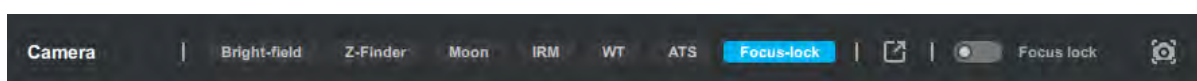

Figure 11.14.1: Figure: Focus lock toggle in Bluelake.
2. To activate the focus lock, click on the **Focus lock** toggle in the camera window (see Figure 11.14.1).